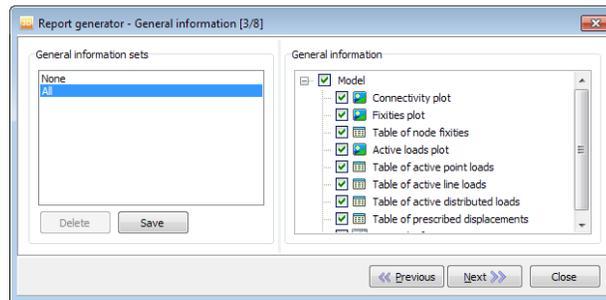

Figure 277: Report generator - General information
**Step 3:** Select general information sets to be included in the report. Note that the selection can be saved as a new set besides *All* and *None* sets (Figure 277: Report generator - General information (on page 425)).